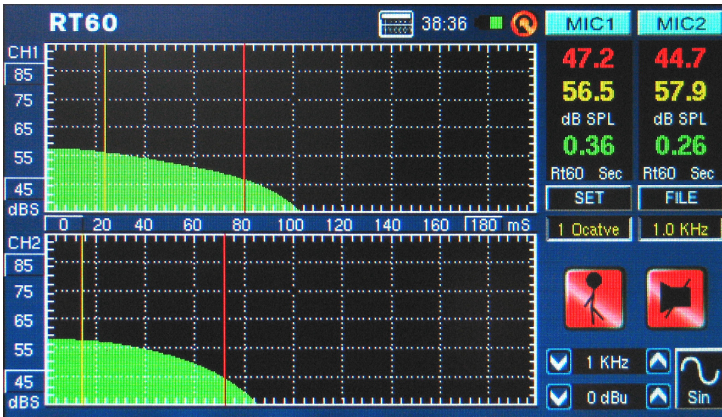

figure 42
- Select SET and change the filter mode to 1 octave. After doing so, select one of the frequencies from the filter frequency field. Doing so will allow users to retrieve the RT60 calculation for the selected frequency only (figure 42).